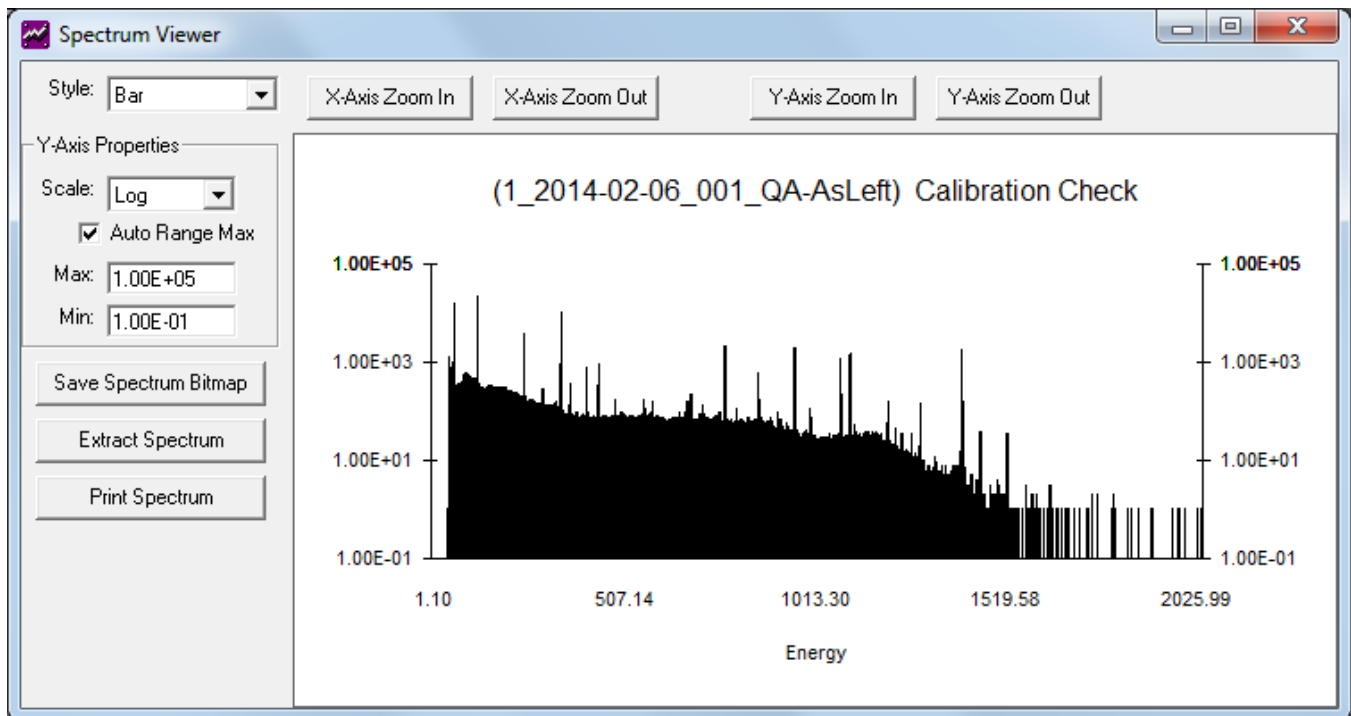

Figure A.4.2.2.2 Spectrum Viewer
- **View Spectrum:** This option displays the interactive spectrum viewer shown in Figure A.4.2.2.2 with data plotted as a Bar Chart, Line Graph, or Points. The spectrum can be zoomed in and out using the buttons above the spectrum window or through keyboard shortcuts where F5/F6 and Up/Down arrow keys zoom horizontally, and the F7/F8 keys zoom vertically similar to GammaVision. The vertical scale can also be viewed in Log or Linear scale with automatic or manual range settings. After setting the desired view an image of the spectrum can be saved to a Bitmap file or printed. The full spectrum file can also be extracted from the database and saved to a file for use directly in GammaVision.